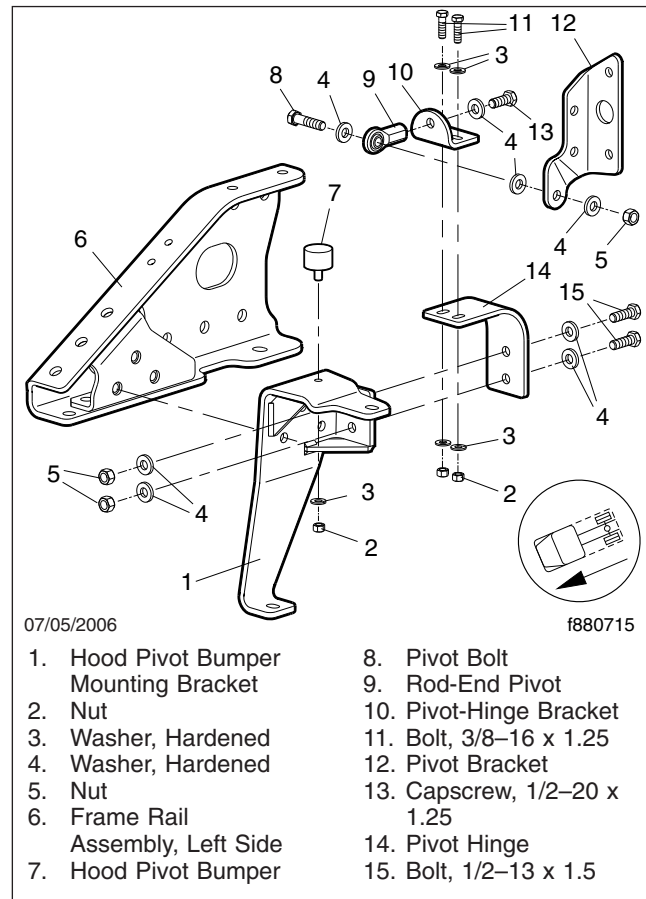
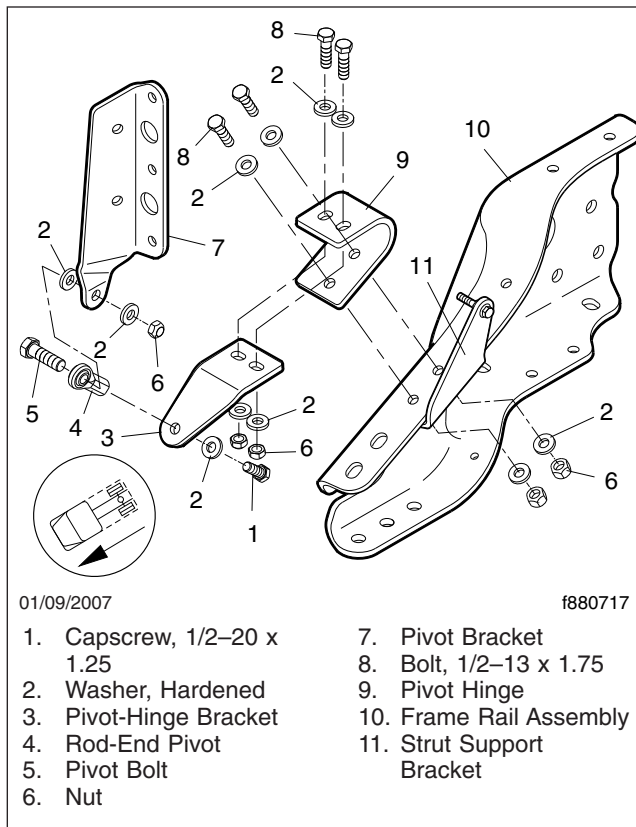

Fig. 10, Hood Hinge Installation (vehicles with an EPA07 engine, and a 106-inch BBC cab)
Fig. 11, Hood Hinge Installation (vehicles with an EPA07 engine, and a 112-inch BBC cab)
10. Remove the hood-hinge pivot bolts. For a vehicle with a 106-inch BBC cab, see Fig. 10. For a vehicle with a 112-inch BBC cab, see Fig. 11.
12. If it is necessary to remove the hood hinges, refer to Fig. 10 (106-inch BBC), or Fig. 11 (112-inch BBC).
2. Align the holes of the hood hinge brackets with those in the lower hood hinges. Install the hood-pivot bolts from the inboard side. Install the washers and locknuts. Tighten the locknuts 25 lbf·ft (34 N·m). For vehicles with a 106-inch BBC cab, see Fig. 10. For vehicles with a 112-inch BBC cab, see Fig. 11.